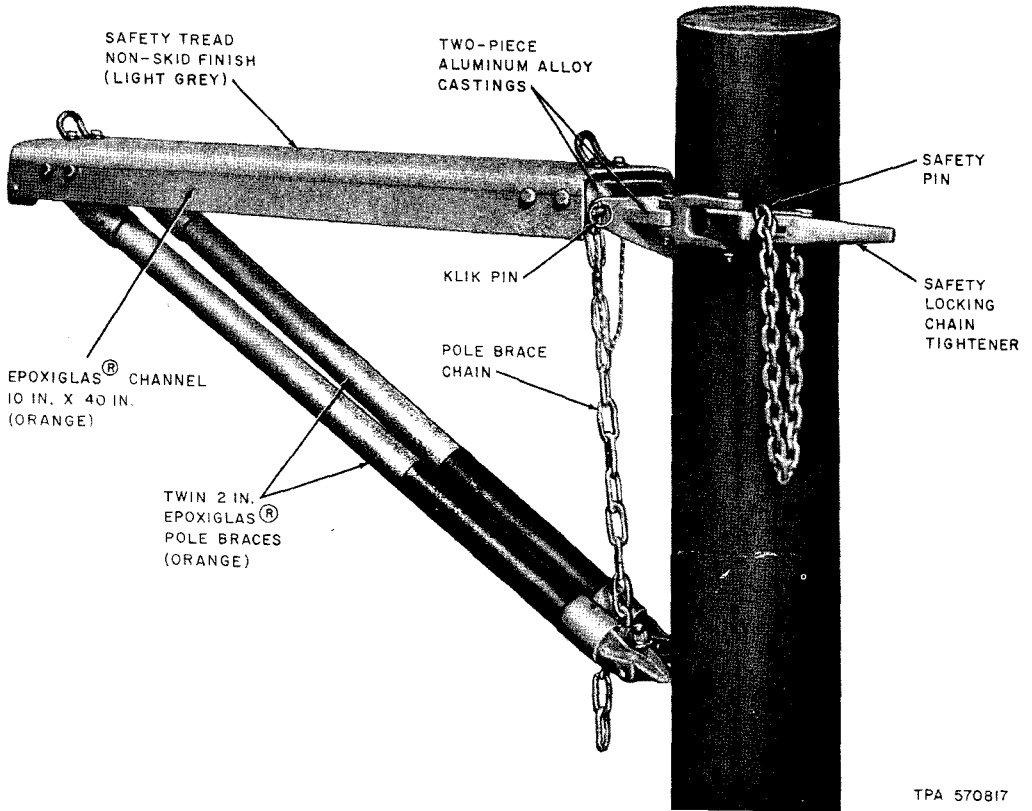

Fig. 1—C Pole Platform
2.01 ♦The C Pole Platform (Fig. 1) utilizes an orange fiberglass reinforced epoxy (Epoxiglas®) material for the platform and braces. The tread surface of the platform is coated with a light grey nonskid paint finish. The weight of the complete platform is approximately 42 pounds.♦